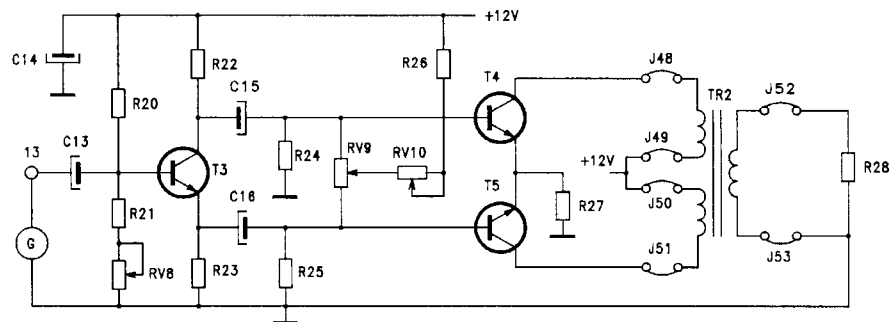

fig. B30.8
- Insert J48, J49, J50, J51, J52, J53, to obtain the circuit of figure B30.8